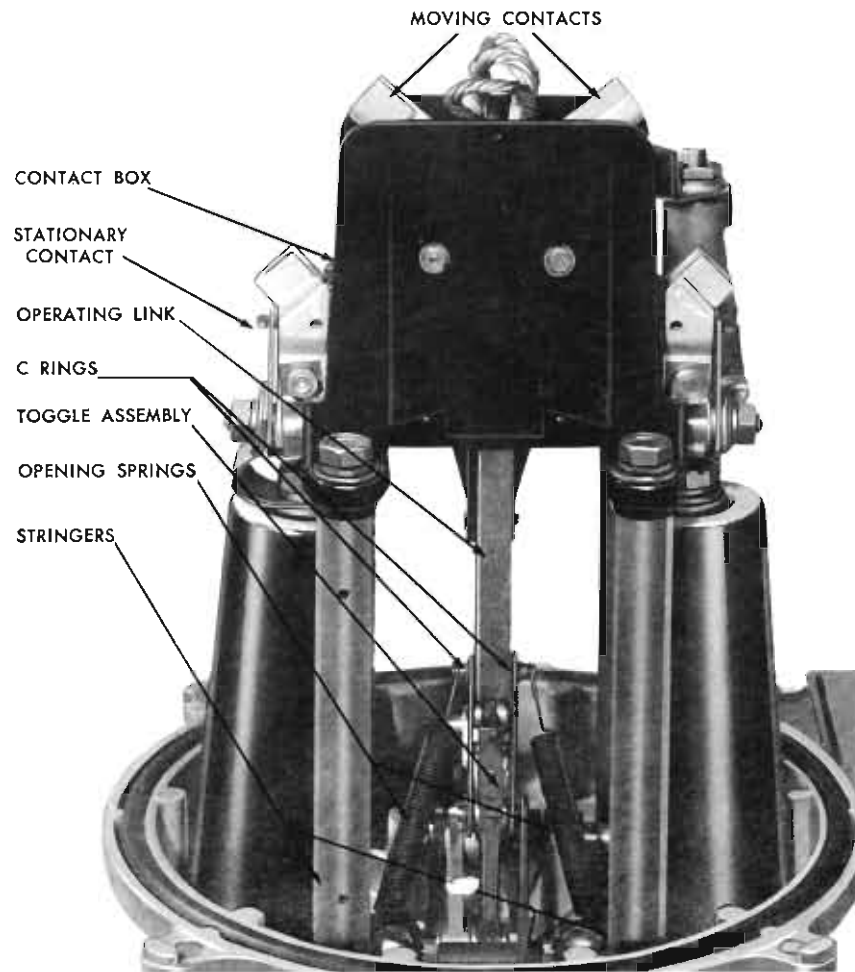

FIGURE 3
1. Unhook opening springs shown in figure 3. Remove the C ring and pull the pin that connects the moving contact operating link to the toggle assembly.